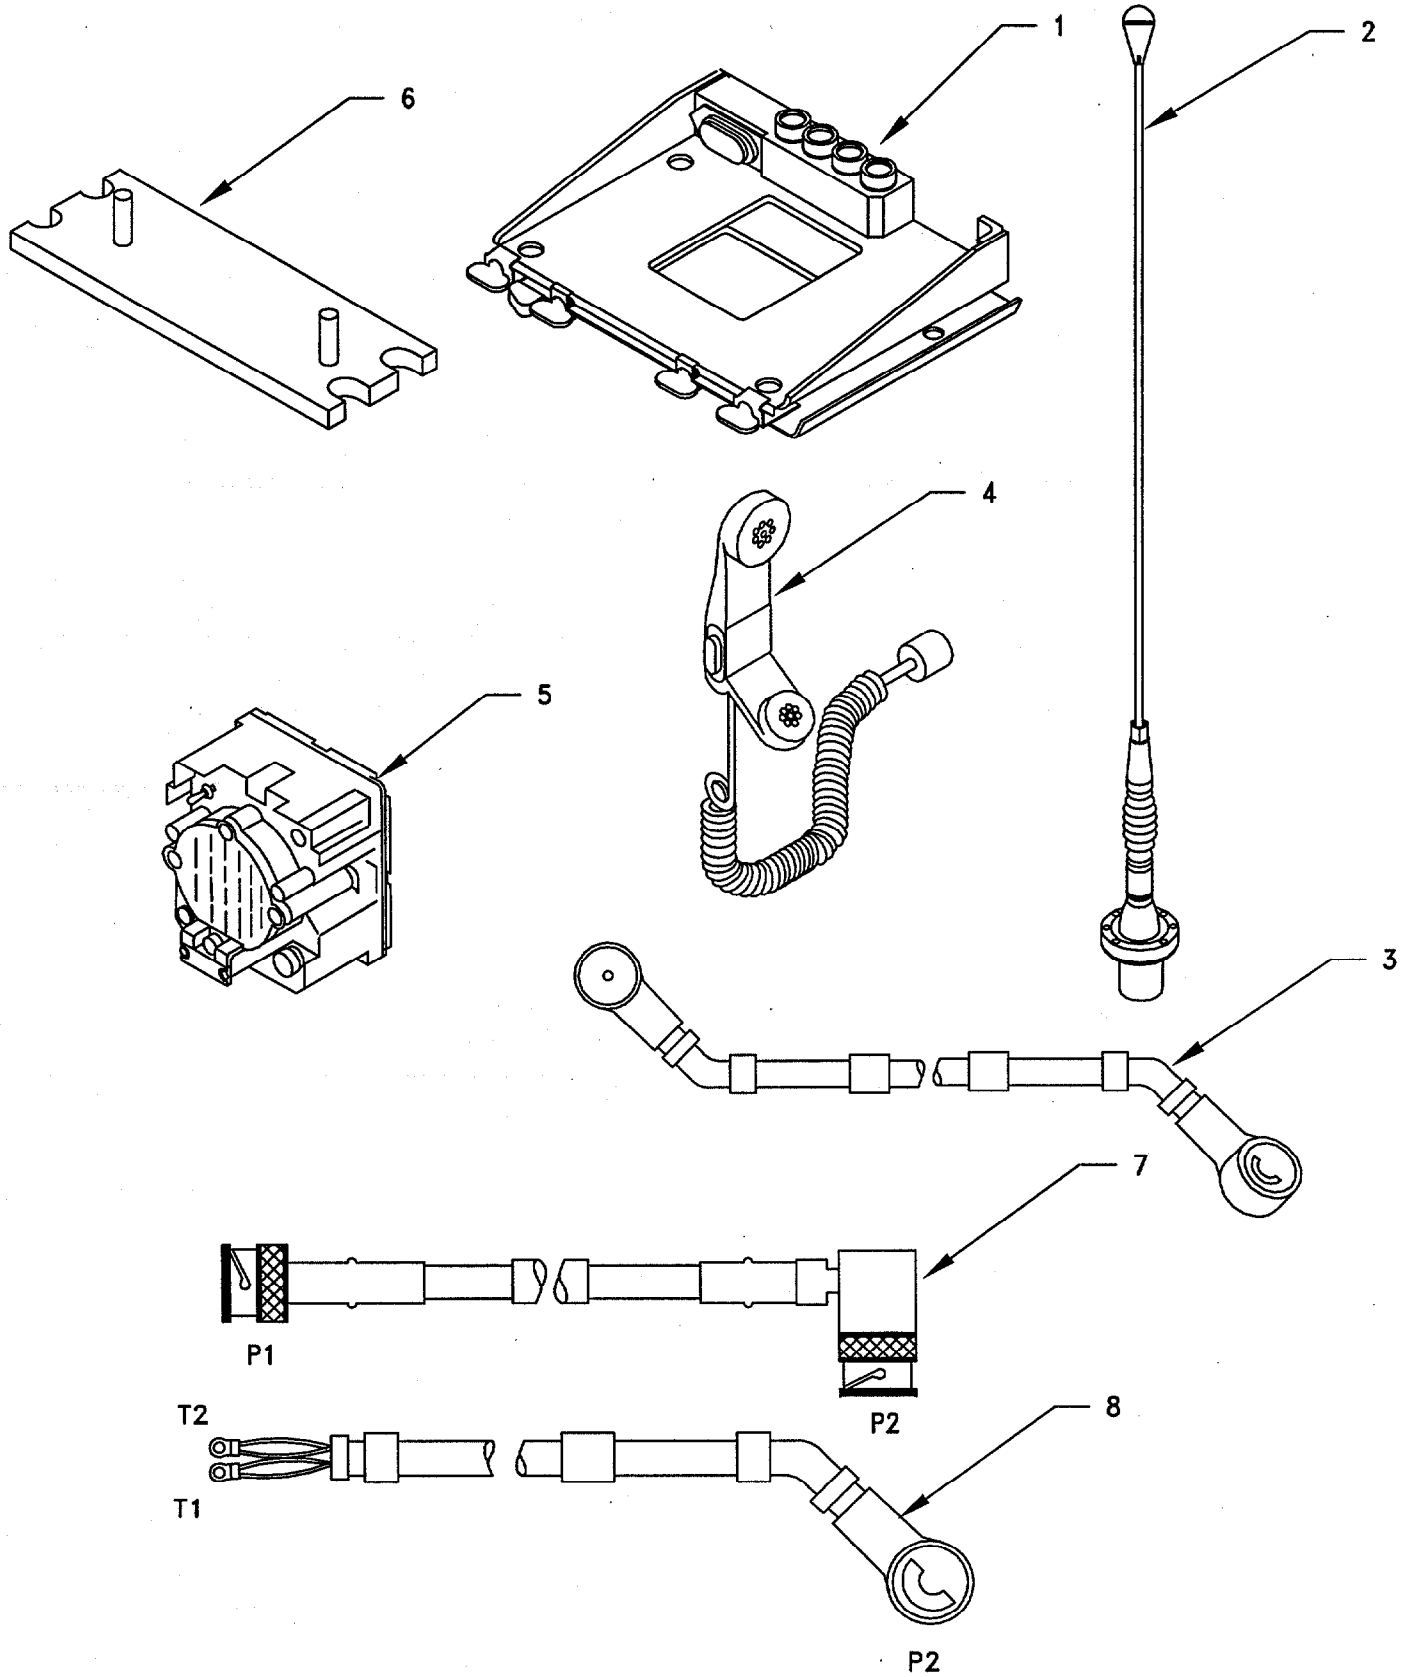

Figure 4-1. MK Illustrated Parts List
**4.3.1 Items Supplied in MK and/or Required for Installation.** Use Table 4-1 and Figure 4-1 to identify and inventory MK parts.